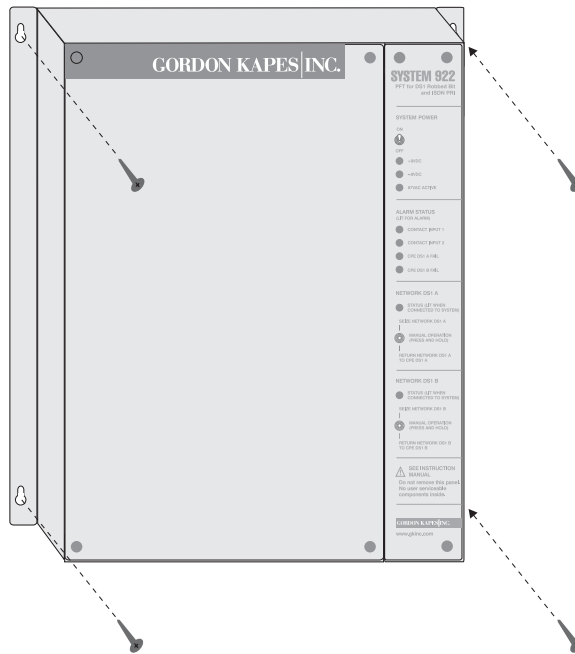

Figure 2-1. Wall Mounting the System 922
- ❑ For wall mount applications, mount the System 922 on the equipment room wall using the four screws (#8 pan head, 3/4-inch long) included in the installation kit. These screws are for use with a wooden-backboard surface (minimum thickness 3/4-inch). The System 922’s enclosure is outfitted with four keyhole screw slots. Use one screw per slot and securely fasten the unit to the backboard. Refer to Figure 2-1 for details.